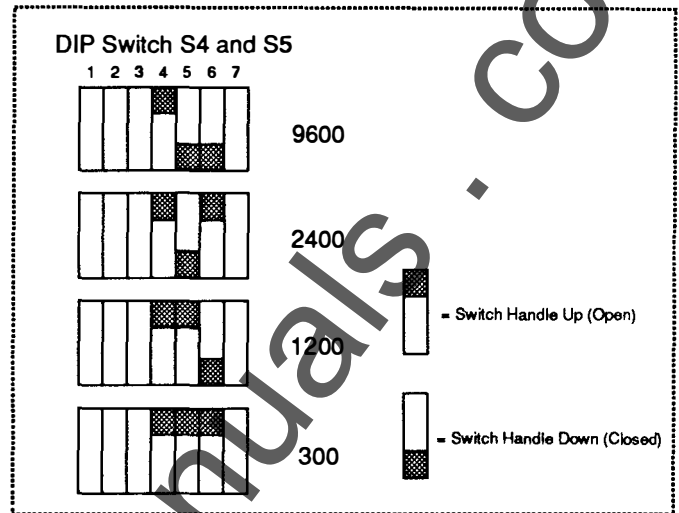

Figure 4-6 - PNIM DIP Switch S4 and S5 Baud Rate Configuration
- Switches 4, 5, 6 - Switches 4, 5, and 6 set the baud rate at which the PNIM will communicate to the device connected to Port 1. This should match the baud rate of the device connected to the port. Figure 4-6 illustrates the switch positions for each baud rate.
- Switches 4, 5, 6 - Switches 4, 5, and 6 set the baud rate at which the PNIM will communicate to the CMs connected to Port 0. This should match the baud rate of the CMs. Figure 4-6 shows the switch positions for each baud rate. Refer to Section 4.1 for instructions on changing the Circuit Monitor baud rate.